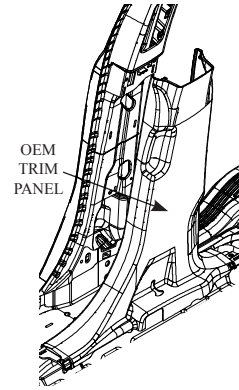

FIG. 12A
- C. Orientate the B-Pillar bracket so the locating tab fits into the Oval Pocket on the vehicle B-Pillar and the formed locating flanges wrap around the vehicle B-Pillar. Push over and up on the Bracket until the locating tab is at the top of the pocket and the flanges are tight against the vehicle B-Pillar edge. Insuring that the bracket is located correctly, using the supplied Self-Drilling screws (3X162) secure the B-Pillar bracket to the vehicle B-Pillar. (See Fig. 12A & 12B)